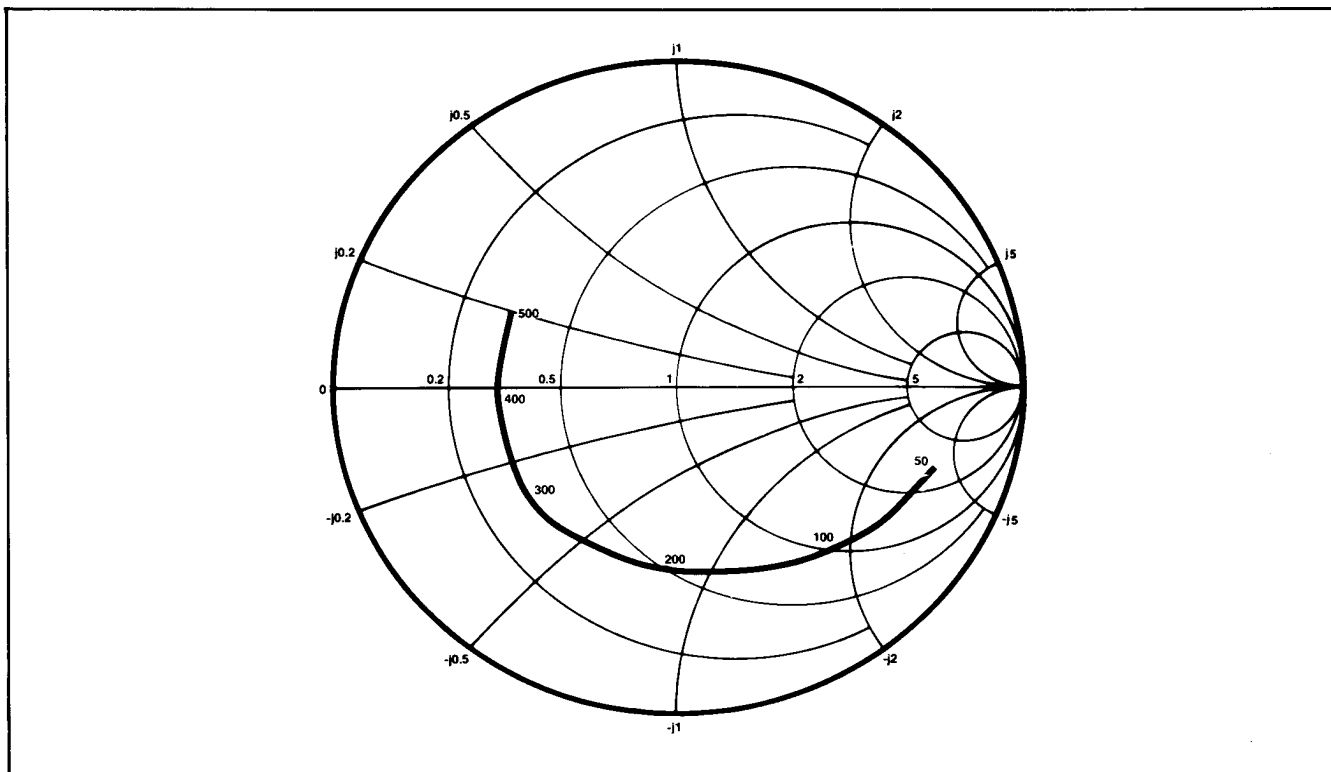

Fig.5 Typical input impedance. Test conditions: supply voltage 5.0V, ambient temperature 25° C, frequencies in MHz, impedances normalised to 50 ohms.
6. Input impedance is a function of frequency. See Fig.5.